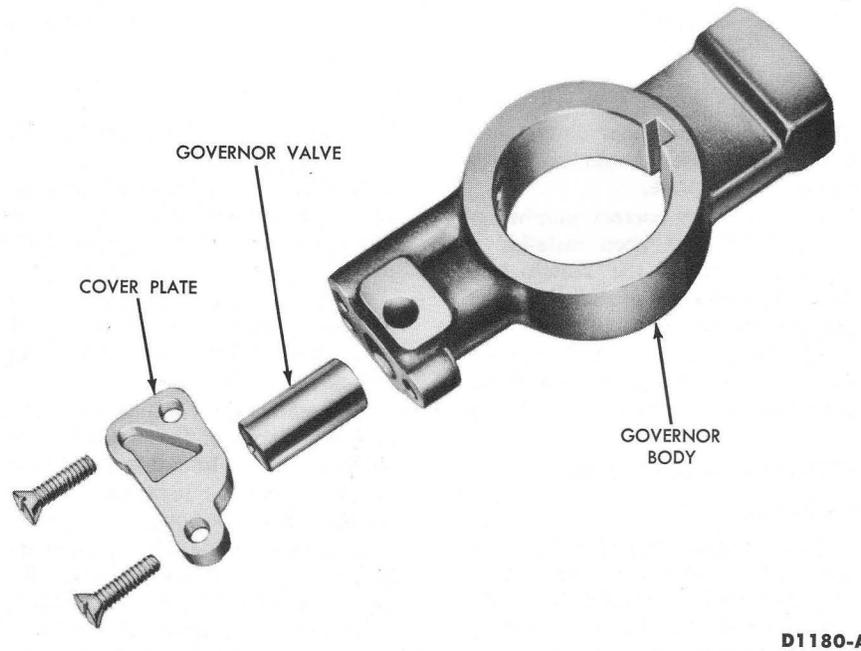

FIG. 9—Governor—Disassembled
1. Remove the two screws that attach the governor cover end plate to the housing (Fig. 9).